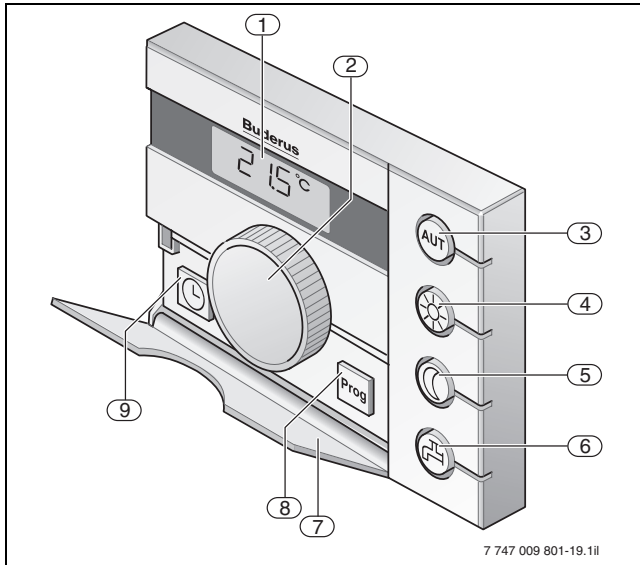
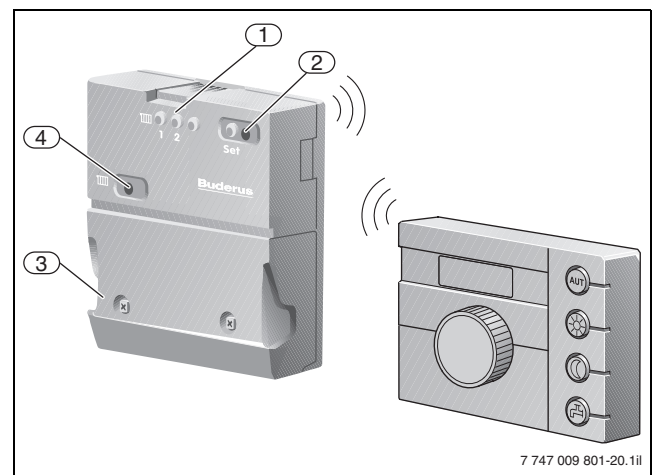

Fig. 41 Displays and controls of the RC25 programming unit
Fig. 42 Displays, indicators and controls of the RFM20 wireless module (shown with the RC20 RF wireless programming unit)
The RC25 (→ Fig. 41) programming unit is connected to the Logamatic EMS and supplied with power via a 2-core BUS cable. It may be used either as a base controller or as a remote control. A wall mounting bracket for securing the RC25 programming unit inside the living space is part of the standard delivery.
Selector keys (→ Fig. 41, pos. 3 to 5) enable the selection of the heating operation modes "Automatic", "Constant heating" and "Constant setback". The integral LED signals the current operating mode.
The RC20 RF wireless programming unit offers the same functions as the RC25 programming unit (→ Fig. 41). Wireless communication between the RC20 RF wireless programming unit installed in the living area and the Logamatic EMS control system installed in the cellar requires the RFM20 wireless module (→ Fig. 42). To achieve the best possible wireless reception, we recommend installing the module on the wall immediately next to the EMS control system.